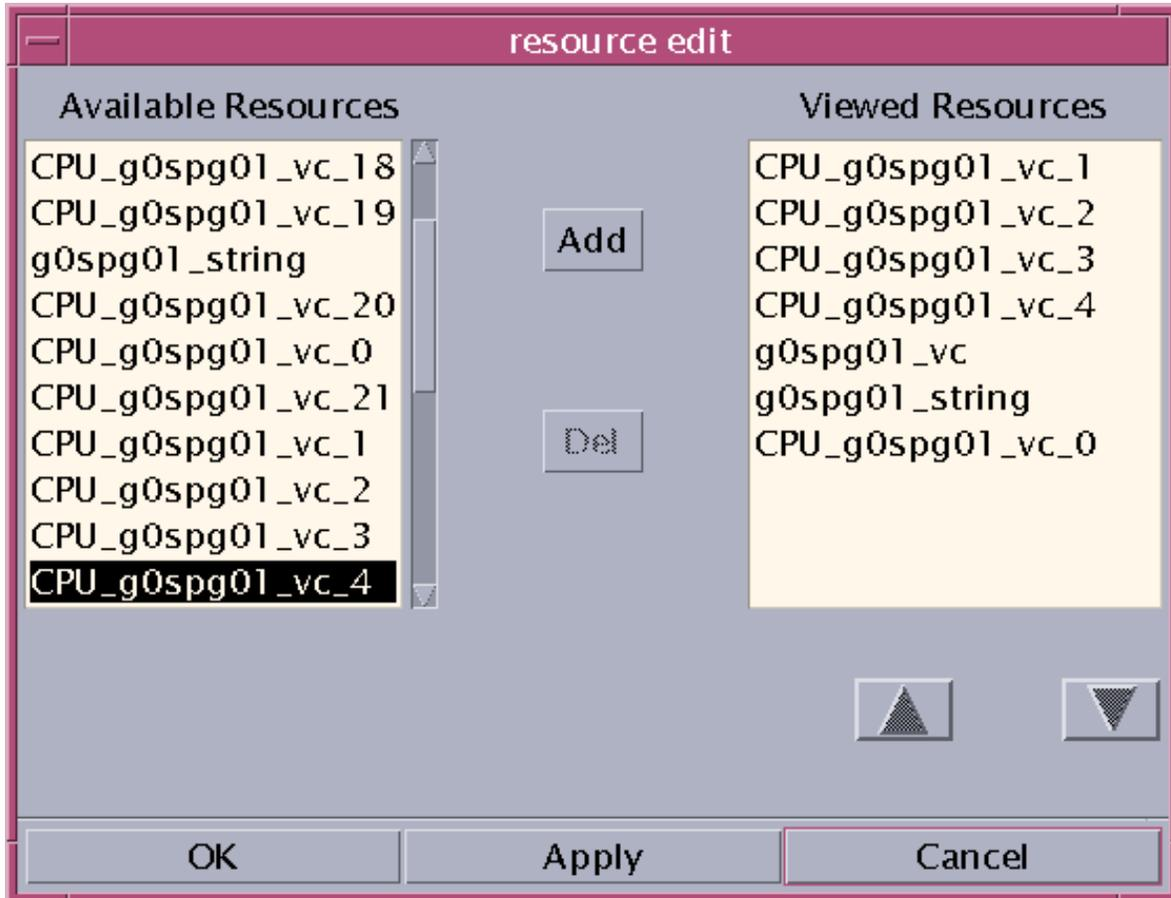

Figure 38. Resource Edit Window
- The **Resource edit** window (Figure 38) is displayed.